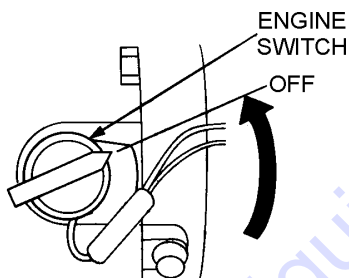

Figure 38. Engine ON/OFF Switch (OFF Position)
2. After the engine cools, turn the engine start/stop switch to the "OFF" position (Figure 38).